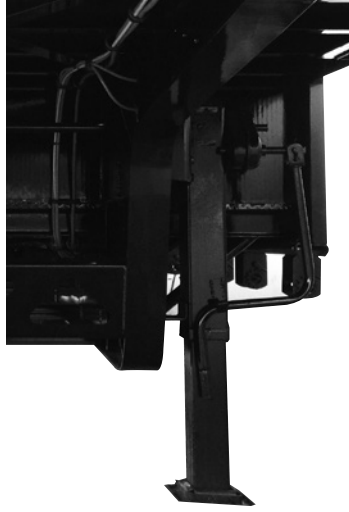

Figure 4
- ground and give a few extra turns in low gear (Figure 4). Do not raise the trailer off the fifth wheel.